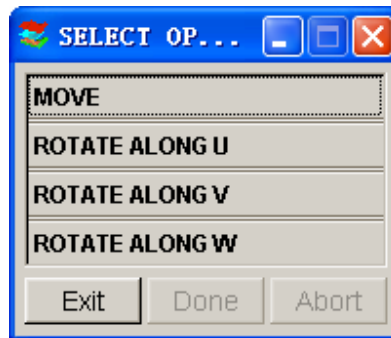

Figure 11.13.3 Modify C.S Options
- After a coordinate system is selected in the SELECT LCS dialog window, the SELECT OPTION window as shown in Figure 11.13.3 is displayed.